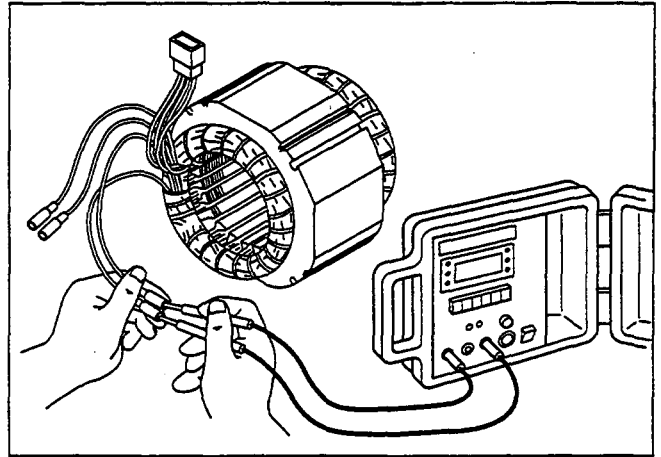

Fig. 11-1
- (1) Remove control panel and disconnect stator wires at the connectors.
- (2) Measure the resistance between terminals on stator leads. (See Fig. 11-1) Refer to Table 9-1 of Section 9-4 STATOR for normal resistance. If stator is faulty, replace it with a new one.